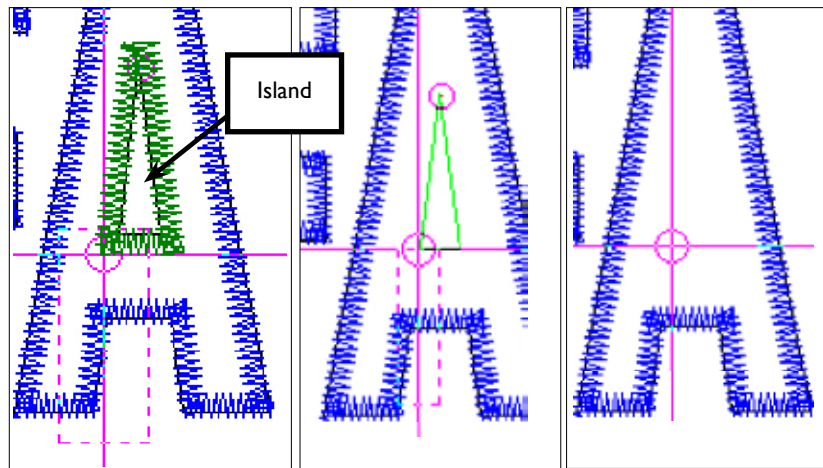

Figure 25. Removing the stitch "island" in the letter "A".
3. Click the **Edit** button in the **Blue Toolbar**, then click any of the zigzag stitches in the triangle in the center of the "A" (the "island"). The **Black Toolbar** will appear (**Figure 25**).